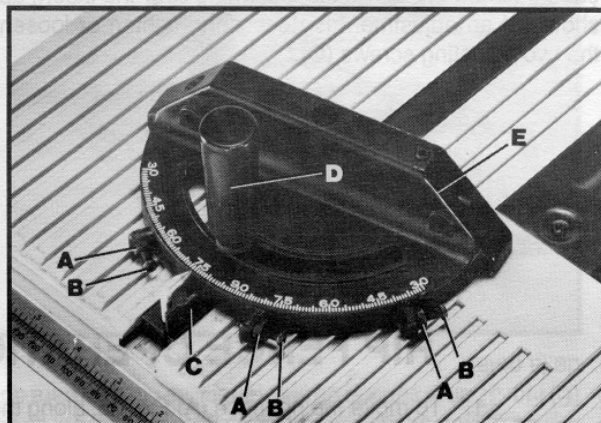

Fig. 38
Your miter gage is equipped with individually adjustable index stops at 90 degrees and 45 degrees right and left. Adjustment to the index stops can be made by loosening lock nuts (A) Fig. 38, and tightening or loosening the three adjusting screws (B) against the stop link (C).
To operate the miter gage, simply loosen lock handle (D) Fig. 38, and move the body of the miter gage (E) to the desired angle. The miter gage body will stop at 90 degrees and 45 degrees both right and left. To rotate the miter gage body past these points, the stop link (C) must be flipped out of the way.